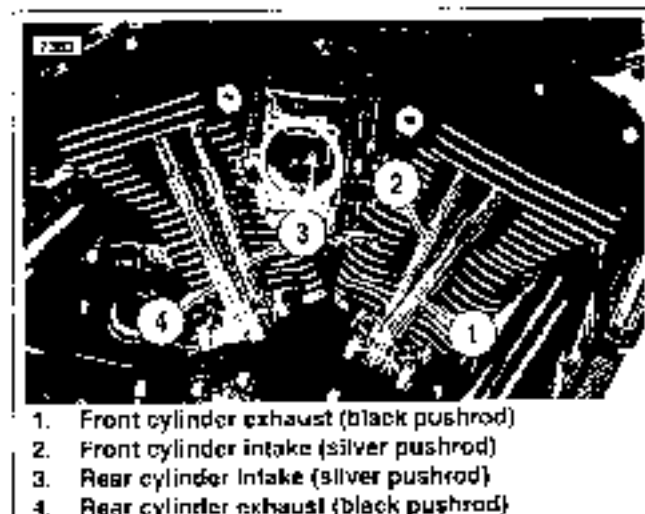

Figure 3-45. Lifter Bore Covers
9. See Figure 3-45. Apply a very thin film of clean 110 20W50 engine oil to new baffle hole O-ring (2). Install new O-ring in groove around breather baffle hole in rocker housing.
- a. See Figure 3-45. For example, in reassembling the rear cylinder, slide the intake pushrod (silver) through the front hole in the rocker housing engaging the lifter socket in the inside hole of the lifter cover.